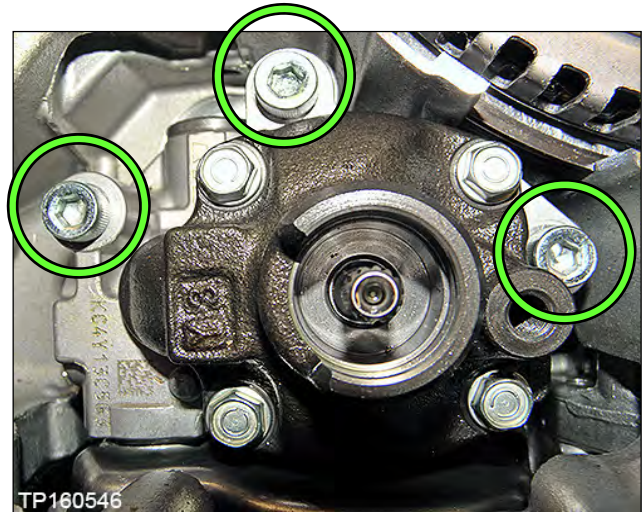

Figure 65
42. Install the new oil pump using three (3) original Allen™-head bolts (Figure 65).